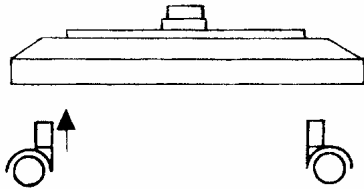

Fig.2
1. Push the five multi-direction wheels into the holes on the wheeled bottom individually (see Fig. 2).